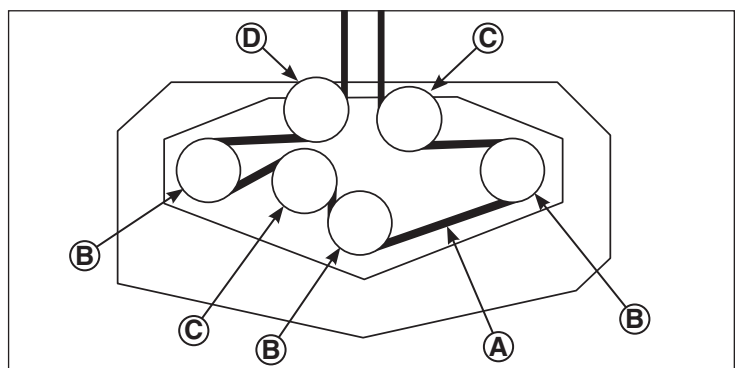

Figure 3. Reinstalling the Mower Deck Drive Belt
9. Remove the PTO clutch and spacer (E) from the unit. Discard the spacer.
10. Install the new spacer (p/n 5044062)(F) onto the crankshaft with the groove towards the base of the engine.
12. Use a solvent to clean the oil from the new crankshaft bolt (p/n 5102864)(G) and then wipe dry with a cloth.
13. Apply Locktite 271 Threadlocker to the threads of the crankshaft bolt and secure the PTO clutch to the crankshaft with the crankshaft bolt and two belleville washers (p/n 5025585)(H) arranged with their domes facing down. Torque the crankshaft bolt to 65 ft lbs (88 Nm).
14. Install the 5/16-18 hex nylock flange nut (B) to secure the clutch anchor bolt to the PTO clutch.
15. Reinstall the mower deck drive belt (A, Figure 3) on the PTO clutch and check that the V-side of the belt runs in the pulley grooves and the belt is routed in the spindle pulleys (B) and all idler pulleys (C) except the rear stationary idler pulley (D).